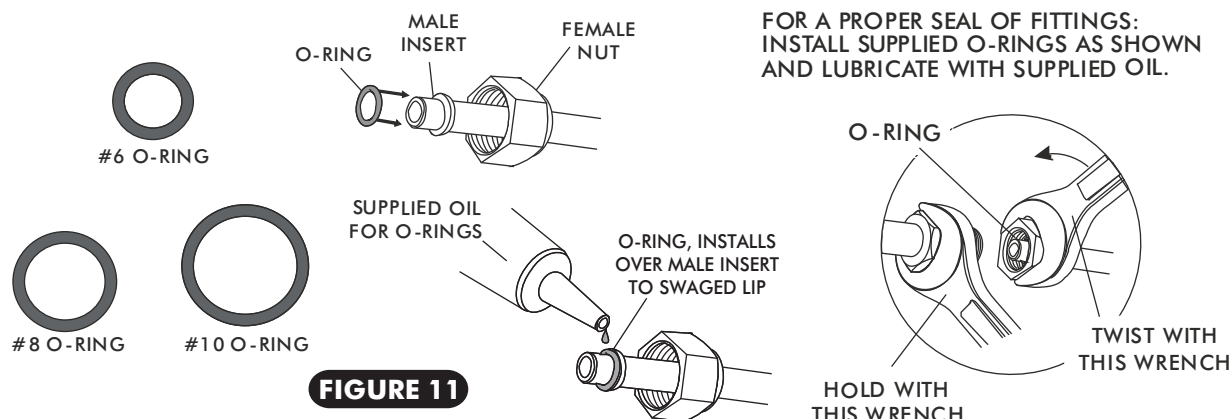
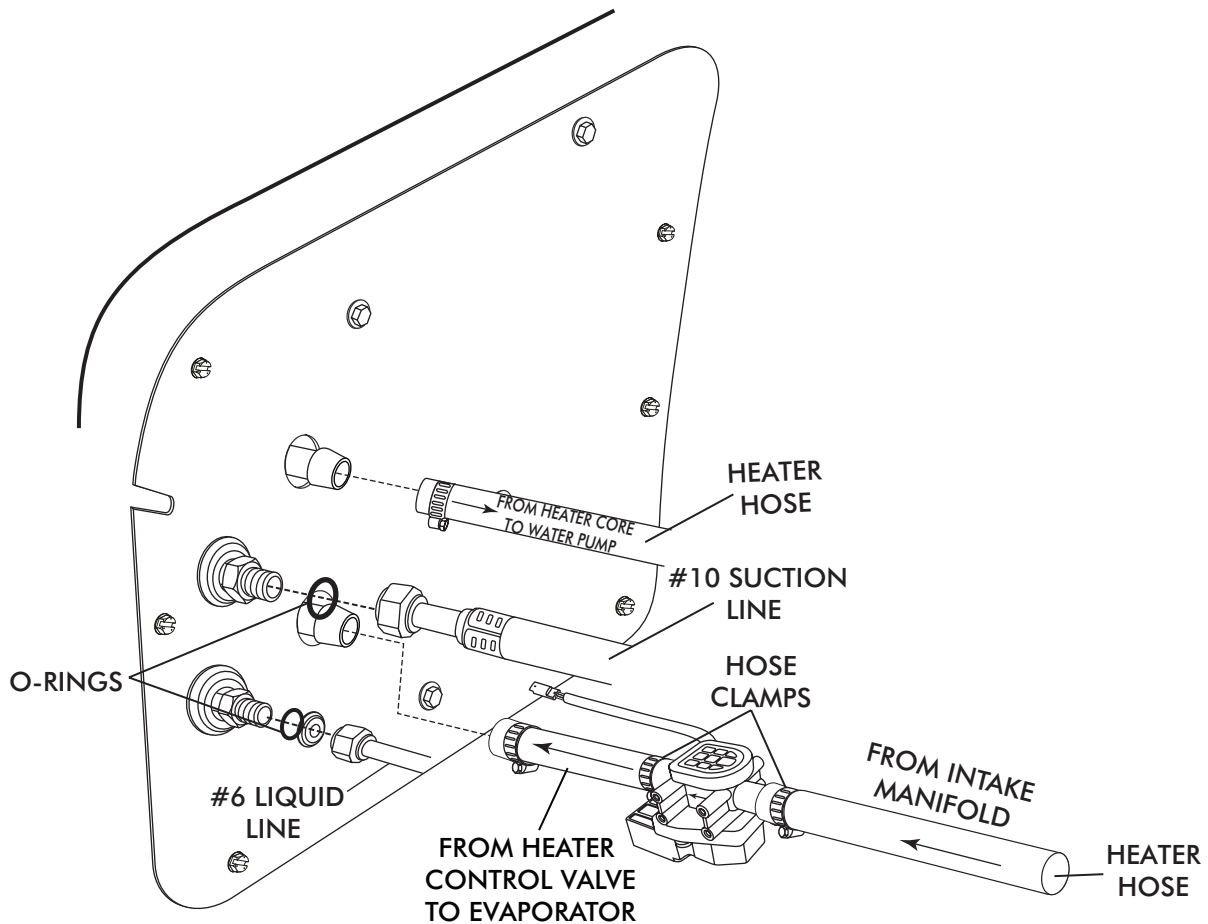
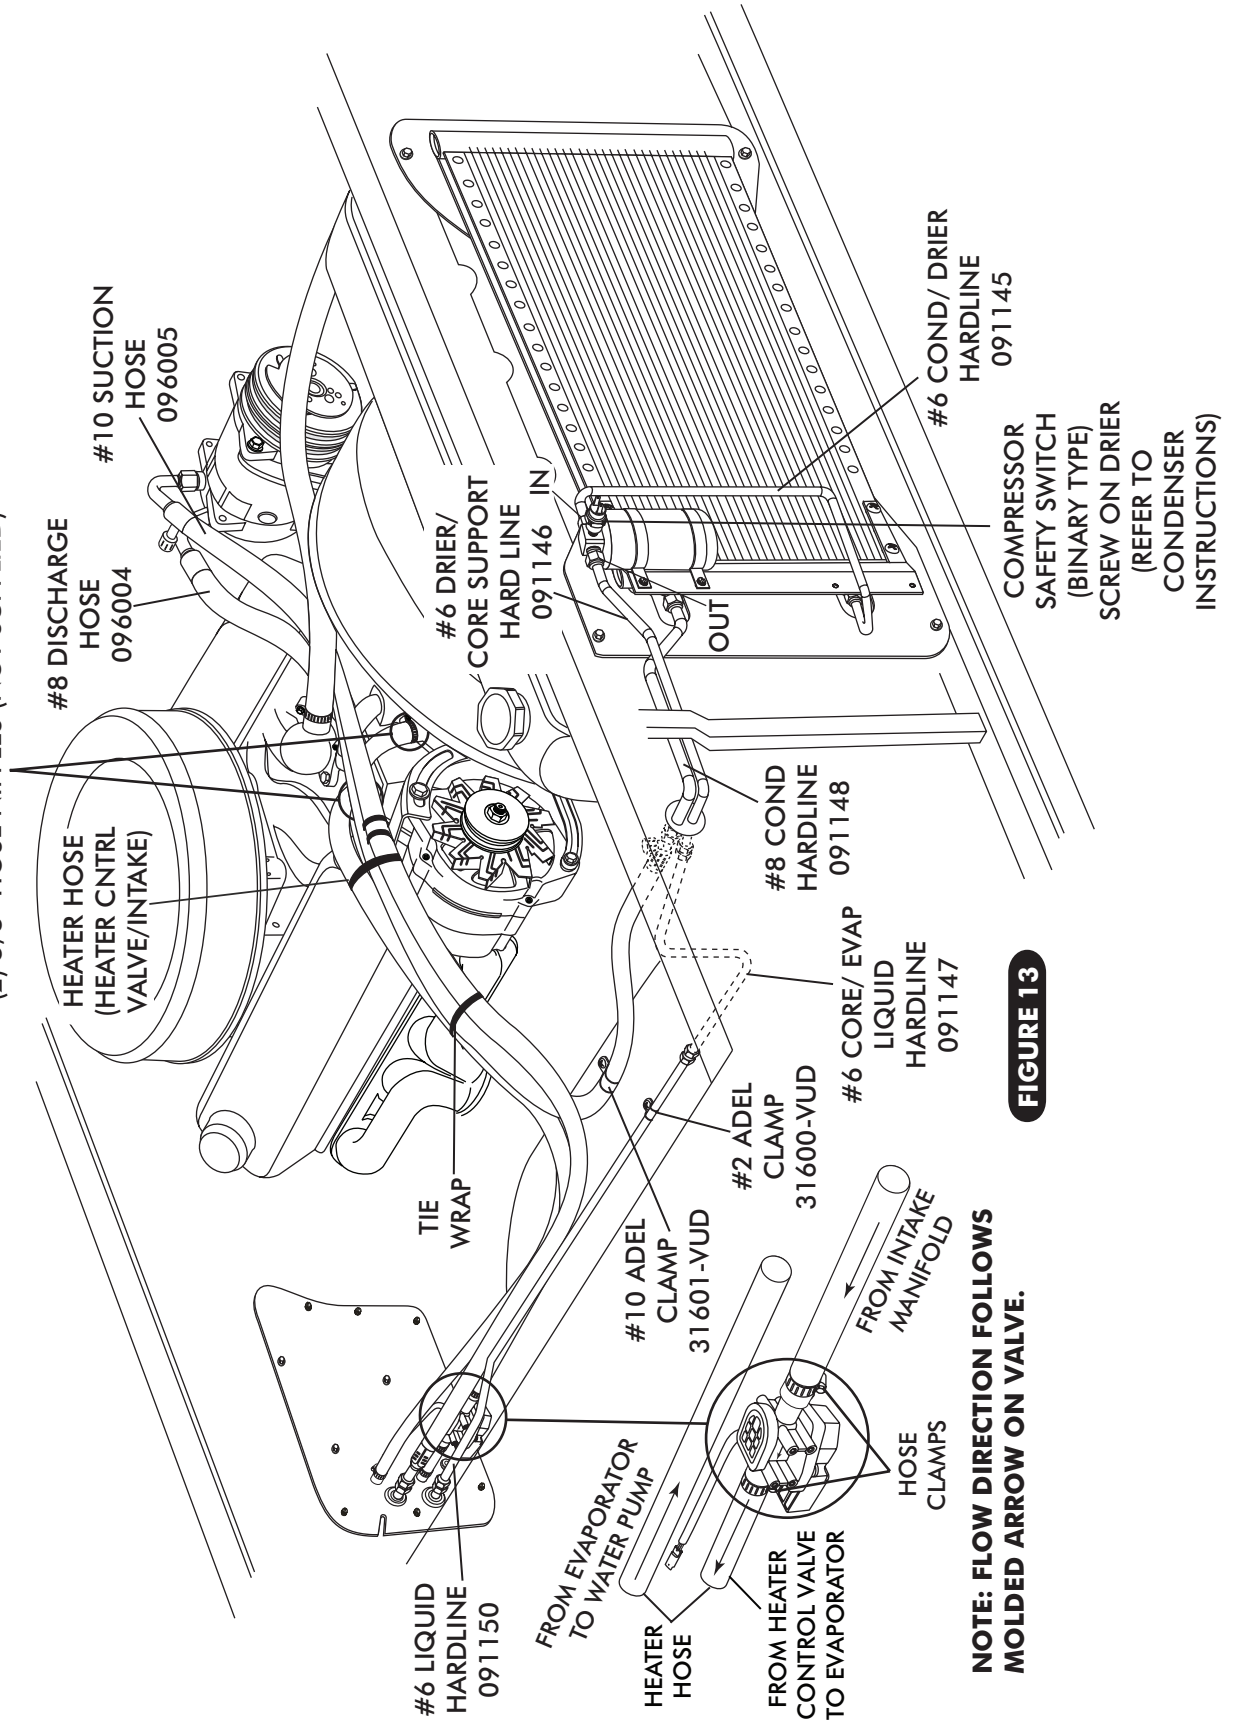

FIGURE 11
FIGURE 12
FIGURE 13
- INSTALL #6 EVAP HARDLINE AND (2) HEATER HARDLINES WITH PROPERLY LUBRICATED O-RINGS. (SEE FIGURE 8, PAGE 11 AND FIGURE 11, PAGE 13).
- ☐ LOCATE THE #8 COMPRESSOR A/C HOSE. LUBRICATE (2) #8 O-RINGS (SEE FIGURE 11, ABOVE) AND CONNECT THE 90° FEMALE FITTING TO THE #8 DISCHARGE PORT ON THE COMPRESSOR. ROUTE THE STRAIGHT FEMALE FITTING w/ 134a SERVICE PORT TO THE #8 CONDENSER HARDLINE COMING THROUGH CORE SUPPORT. SEE FIGURE 13, PAGE 15. TIGHTEN EACH FITTING CONNECTION AS SHOWN.
- ☐ LOCATE THE #10 COMPRESSOR A/C HOSE. LUBRICATE (2) #10 O-RINGS (SEE FIGURE 11, ABOVE) AND CONNECT THE #10 135° FEMALE FITTING w/134a SERVICE PORT TO THE #10 SUCTION PORT ON THE COMPRESSOR. ROUTE THE STRAIGHT FEMALE FITTING TO THE #10 EVAPORATOR. SEE FIGURE 12, PAGE 14 AND FIGURE 13, PAGE 15. TIGHTEN EACH FITTING CONNECTION AS SHOWN.
- ☐ INSTALL #6 A/C LIQUID LINE AS SHOWN IN FIGURE 13, PAGE 15.
- ☐ ROUTE HEATER HOSE FROM WATER PUMP TO THE HEATER LINE COMING THROUGH THE FIREWALL AS SHOWN IN FIGURE 12, BELOW. SECURE USING HOSE CLAMPS. **NOTE: A SMALL AMOUNT OF SILICONE SPRAY WILL EASE HEATER HOSE INSTALLATION.**